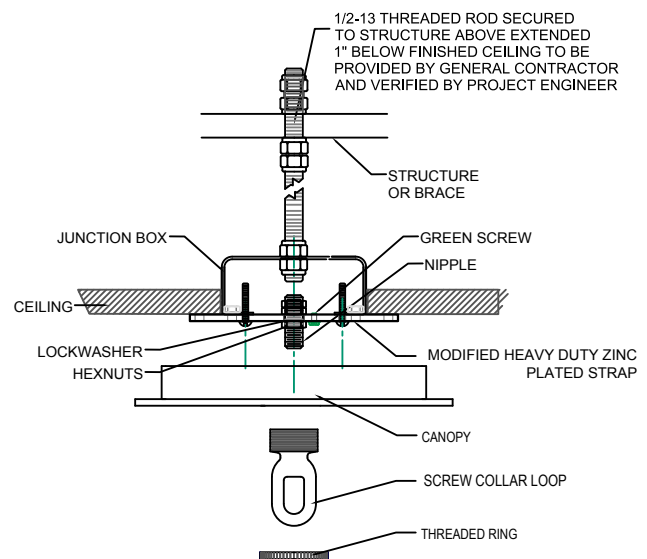

FIGURE-01
2. Remove the threaded ring from the screw collar loop. Fully thread the screw loop unto the nipple. Thread the hex nut onto the nipple and the nipple into the mounting strap. Place the canopy over the screw collar and against the ceiling. Adjust the nipple so that $\frac{1}{4}$ " of threads on the screw collar loop extend beyond the canopy. Tighten the hex nut against the crossbar. Using the threaded ring, install the canopy. (See Figure -01)